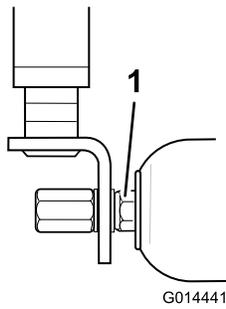

Figure 84
2. If there is excessive movement, carefully tighten the nuts at each end of the roller with the wrench just enough to remove any end play (Figure 84).